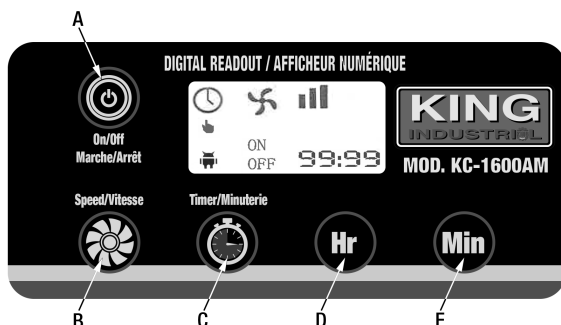

Figure 4
When turning On the air mover, the clock setting must be set. Press the **On/Off button** (A) Fig.4 to turn air mover On, the clock will flash in the digital readout, then press **Timer button** (C) to enter clock setting, press **Hr button** (D) to set the hour, then press the **Min button** (E) to set the minute.
If you desire to set a timer start time (On), and a timer stop time (Off), press the **On/Off button** (A) Fig.4 to turn air mover On, the clock will flash in the digital readout, then press **Timer button** (C) twice to enter Timer On setting, press **Hr button** (D) to set the hour, then press the **Min button** (E) to set the minute. Then press **Timer button** (C) again to enter Timer Off setting, press **Hr button** (D) to set the hour, then press the **Min button** (E) to set the minute. Press **Timer button** (C) to exit the timer setting.
If you desire to turn the air mover fan Off while setting clock or timer, press and hold the **Speed button** (C) Fig.4 for 3 seconds, press **Speed button** again to restart the fan.
If you desire to view the timer start time (On), simply press the **Hr button** (D) Fig.4, and to view the timer stop time (Off), press the **Min button** (E).